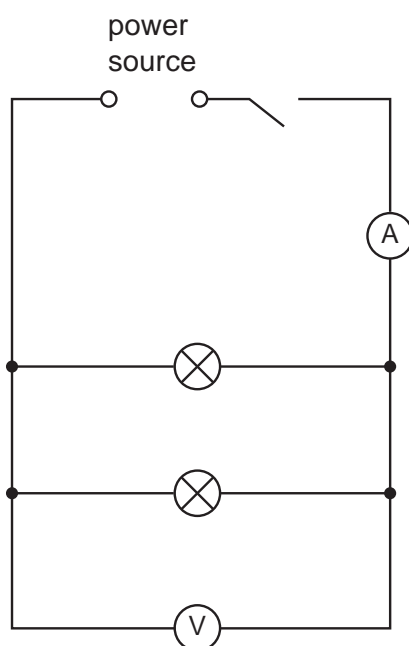

Fig. 3.1
- (vi) Sufficient connecting leads to set up the circuit shown in Fig. 3.1.
1. The circuit is to be set up for the candidates as shown in Fig. 3.1.
Reconnect the circuit as shown in Fig. 3.1.